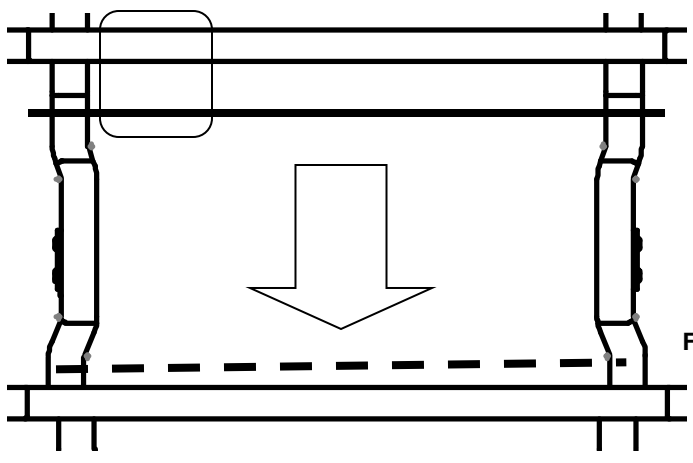

Figure 10
**Step 2 :** Slide the rail rearward, parallel with axle, resting on both frame rails, and as close as possible to the rear hat channel (Figure 10).